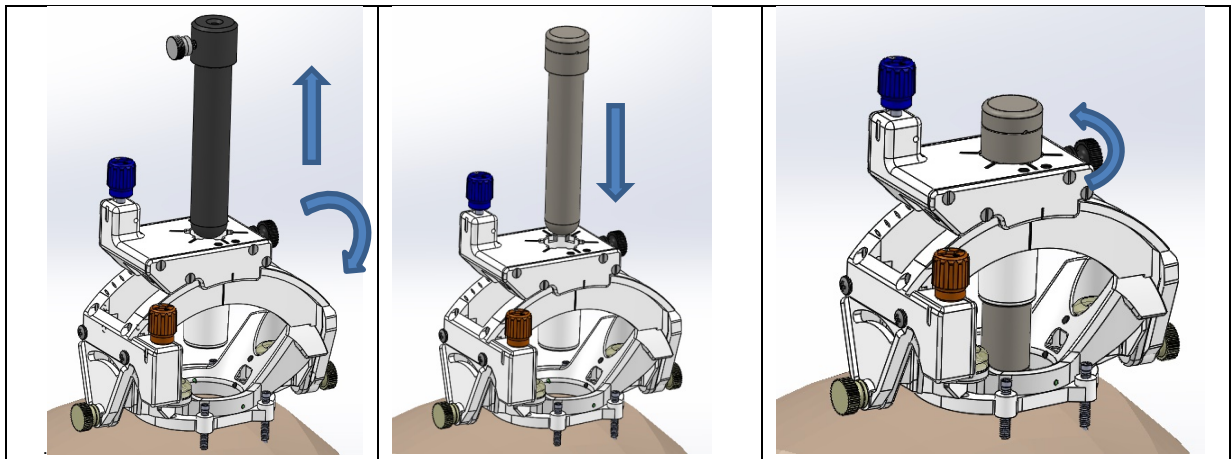

Figure 17: Removing the Probe Adapter (Left), Inserting the Targeting Stem (Middle), and Locking the Targeting Stem in the Tower (Right)
2. Remove the Probe Adapter from the Tower by loosening the Tower side thumb screw and pulling the Probe Adapter out of the Tower. **See Figure 17 (Left).**
3. Remove the Targeting Stem from the packaging tray and insert it into the SMARTFrame Array tower until it bottoms out. Then, tighten the Tower side thumb screw to secure the Targeting Stem in the Tower. **See Figure 17 (Middle) and (Right).**